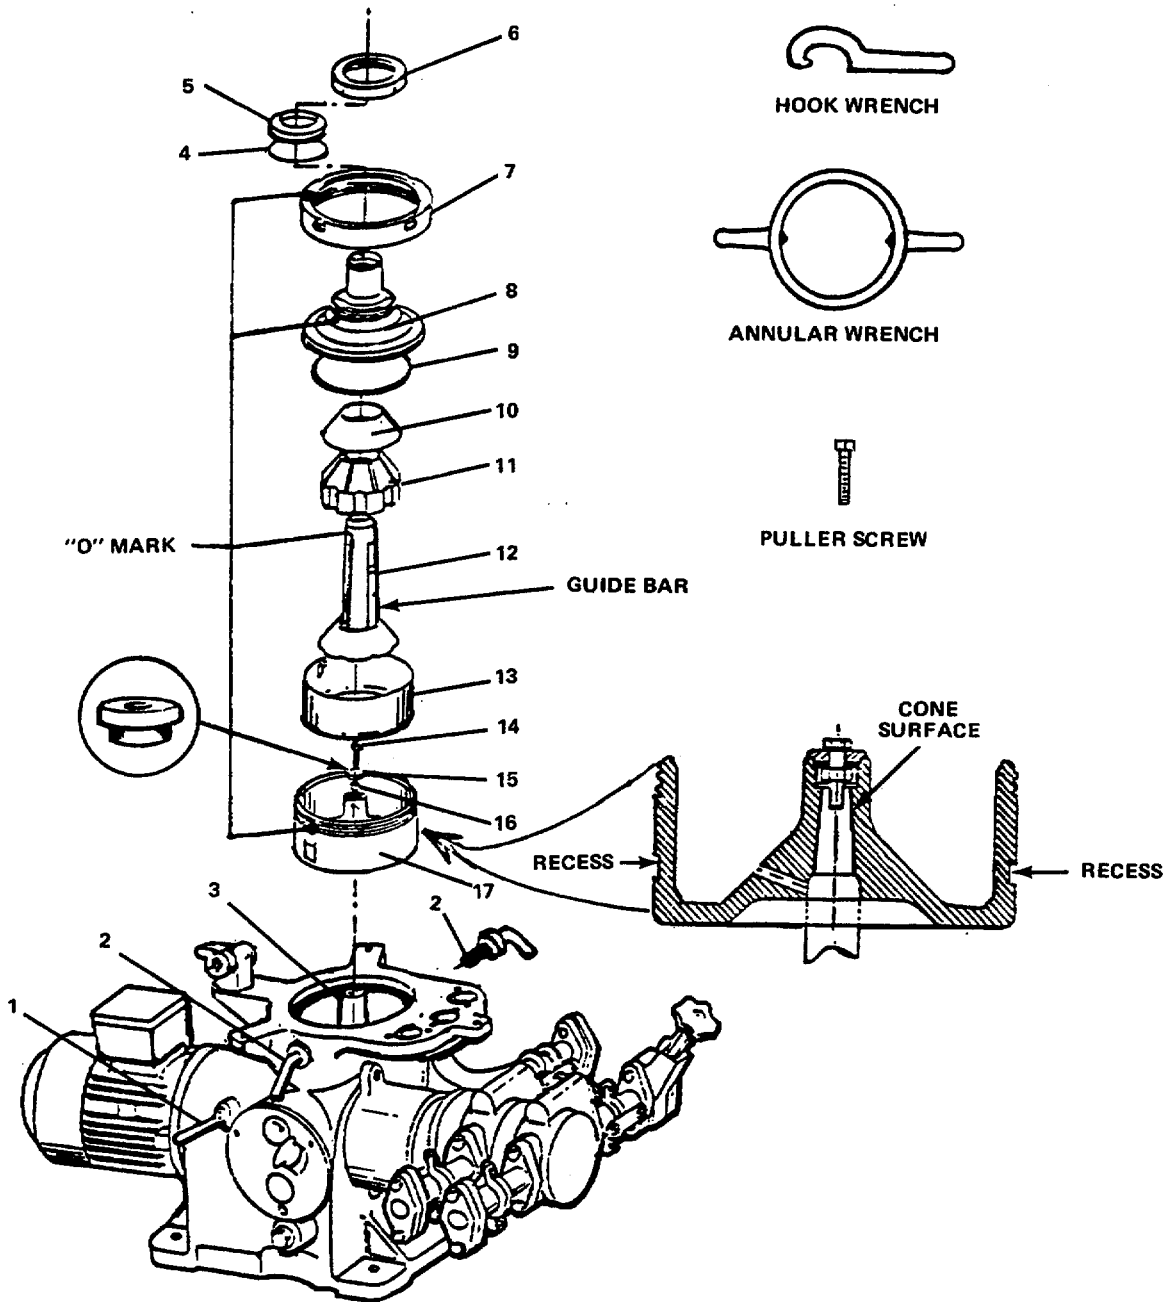

FIGURE 3-9. Bowl Bottom Assembly.
- j. Install gaskets (23) and (25) on gear housing (21) and (24).
- k. Install shaft and gear set (22).
- l. Assemble gear housing by engaging both gear housings on shaft and gear set with mounting screw holes aligned with driver cover (6).
- m. Install four machine screws (20) and secure gear housings to driver cover.
- n. Install sealing ring (5) and retaining ring (4).
- o. Install driver (3) on slotted end of shaft and gear set.
- p. Install threaded pin (1) on sleeve (2).
- q. Slide sleeve (2) on shaft and gear set.
**3-16. Replace Bowl Assembly. (Figure 3-9)**